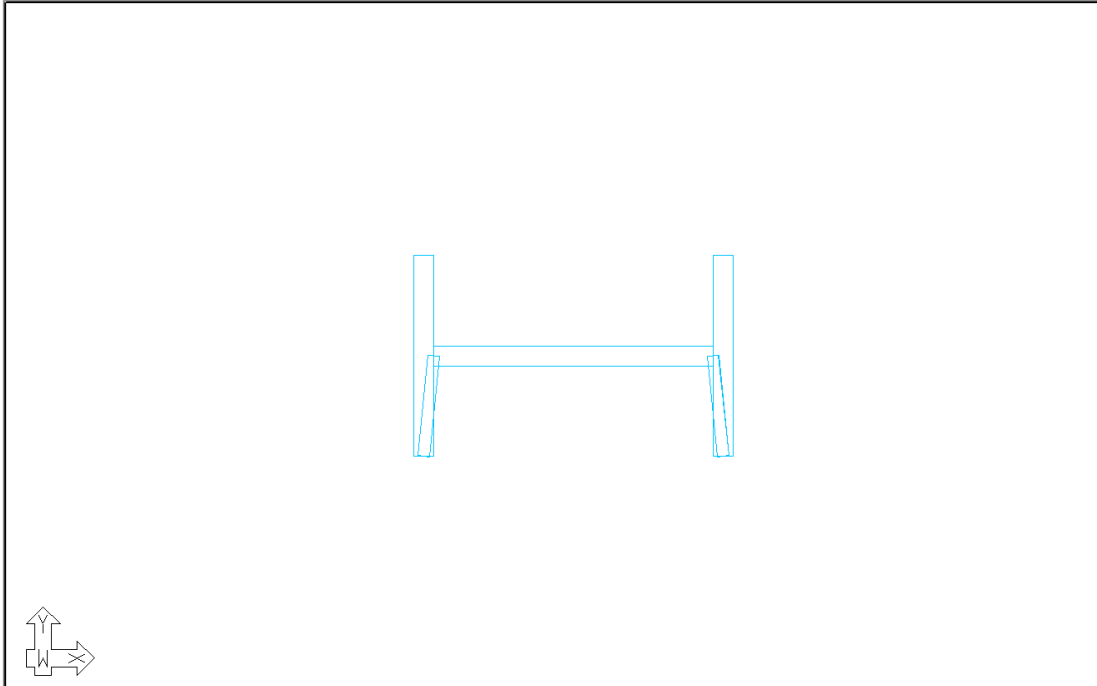

FIGURE 3-18
- Go to *Model* → *Transform* and click on the **Transform Compound Wall**  icon. This will automatically create multiple wall objects based on the selected closed polyline as shown in **FIGURE 3-18**.